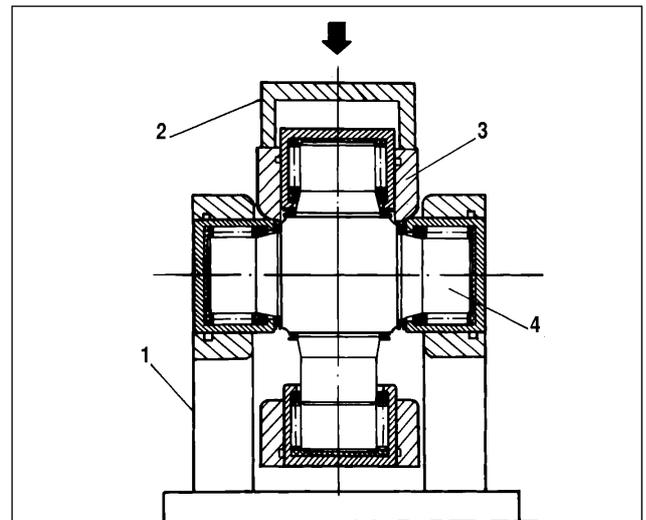

Fig. 3-50. Dismantling the U-joint:
- place the propeller shaft so that one of the yokes will be based on rest 1 (fig. 3-50). Move the other yoke (pos.3) with the help of the press rod through special bush 2 down until it will be pressed against the spider;